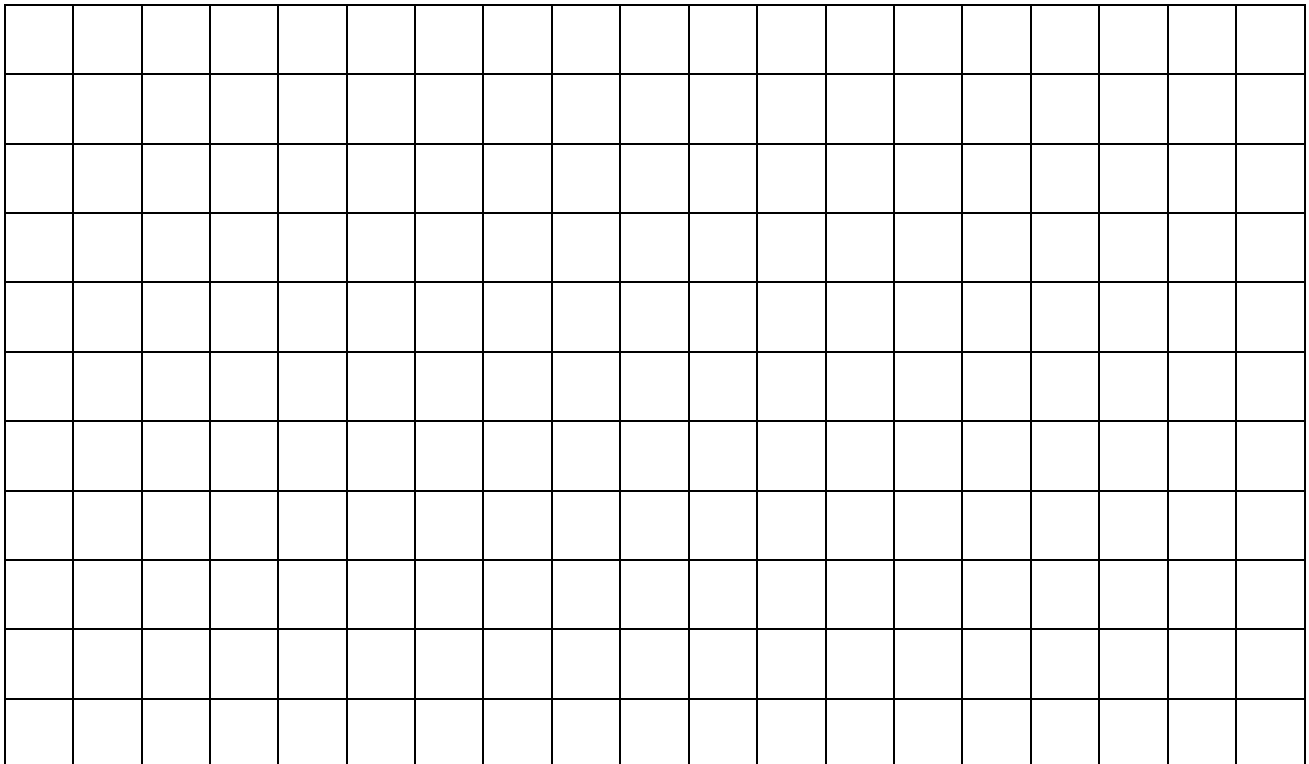

Figure 8
- d. Draw the elevation of the metal dustpan on the grid given in Figure 8. Each square represents 20 mm. Include hidden detail for the thickness of the material to the elevation. Estimate the thickness of the material to be proportional to the drawing. (4)